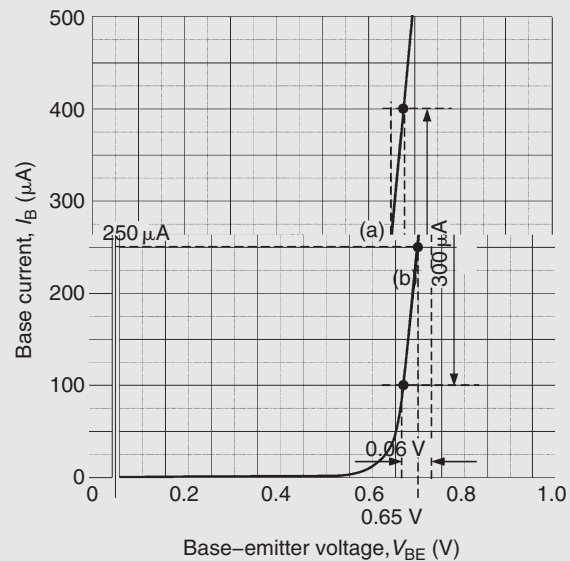

Figure 12.13
**Problem 3.** Fig. 12.13 shows the input characteristic for an n–p–n silicon transistor. When the base–emitter voltage is 0.65 V, determine (a) the value of base current, (b) the static value of input resistance and (c) the dynamic value of input resistance.
- (a) From Fig. 12.13, when  $V_{BE} = 0.65\ \text{V}$ , **base current,  $I_B = 250\ \mu\text{A}$**  (shown as (a) on the graph).
- (c) From Fig. 12.13,  $V_{BE}$  changes by 0.06 V when  $I_B$  changes by  $300 \mu\text{A}$  (as shown by (b) on the graph). Hence,